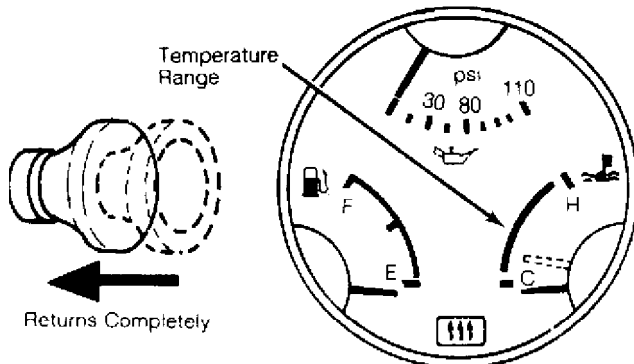

Fig. 5: Checking Automatic Choke Release
2) Start engine and set engine speed at 2000 RPM with choke knob. As engine temperature reaches range indicated in Fig. 5., choke knob should return automatically and freely.